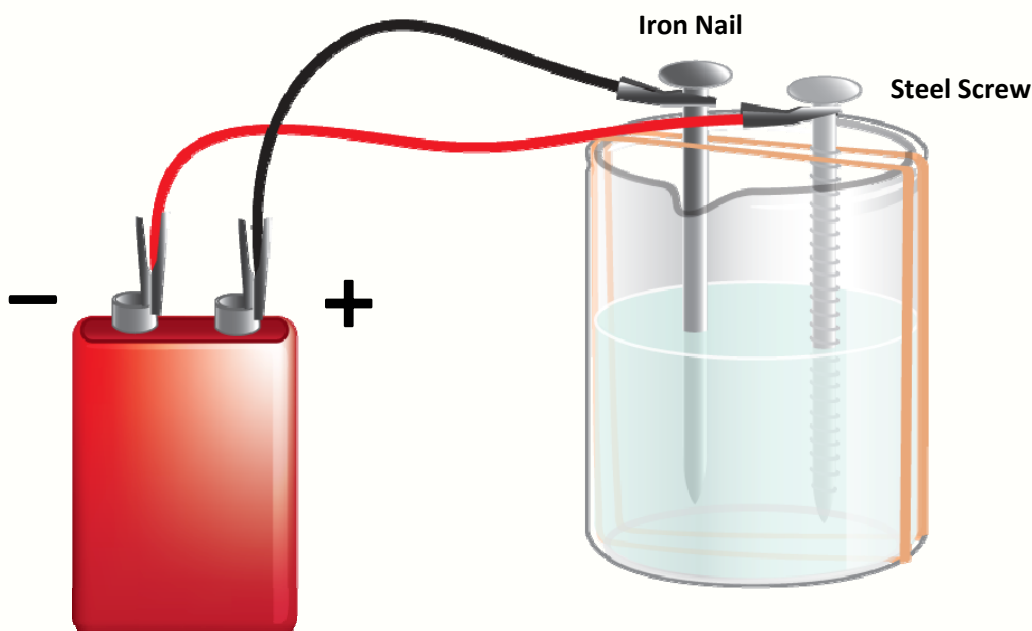

Figure 4: Apparatus for Procedure Part 1
3. Stretch two rubber bands around the 150 mL beaker. Be careful not to spill any of the solution. The rubber bands should loop from the top to the bottom of the beaker. Position the 2 rubber bands next to each other (Figure 4). **HINT:** Do not position the bands around the circumference of the beaker.
4. Attach the first wire lead to just underneath the flat head of an iron nail (using the alligator clip). Place the iron nail between the 2 rubber bands on one side of the 150 mL beaker so that it is suspended in the water. The end of the nail should be in the solution while the head with clip is resting on the rubber bands. (See Figure 4).